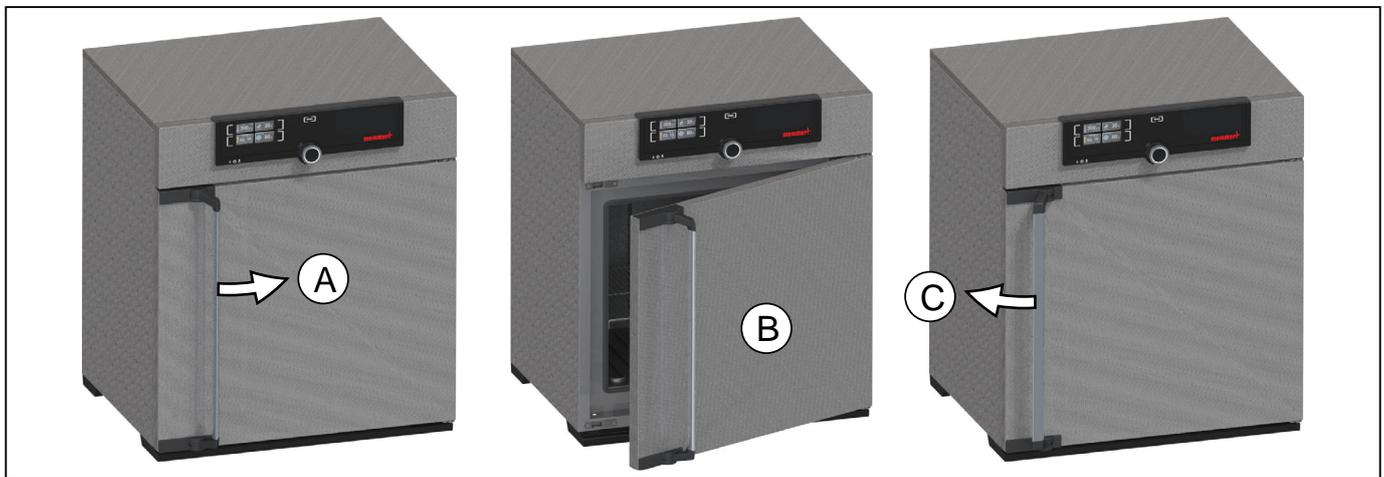

Fig. 10 Opening and closing the door
- ▶ To open the door, pull the door handle to the side (to the left or to the right, depending on the door variation, see Fig. 10, A). The door opens slightly, so that the heat can be vented with the door ajar in case of high temperature inside the chamber. The door can then be opened completely (B).
- ▶ To close the door, push the door handle back (C).